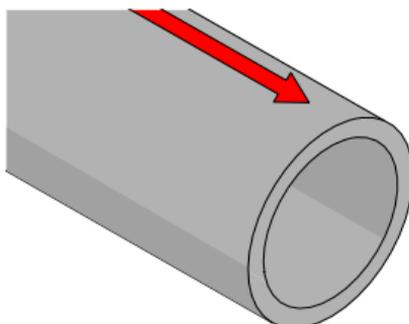

Fig. 6 - Longitudinal scanning
**Longitudinal** Direction of scan travel is lengthwise of the pipe/tube (*Fig. 6*).